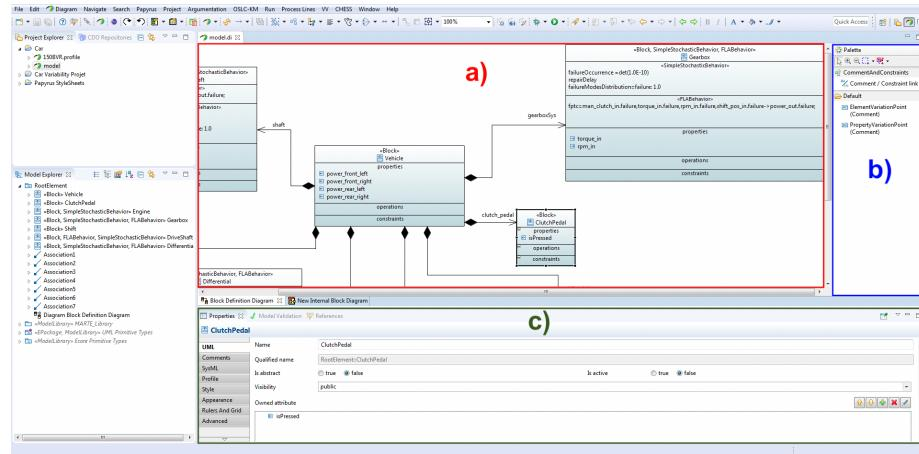

Figure 18: CRITVAR Environment and its a) graphical editor of the targeting modeling language, b) palette and c) properties view
- i. Select the desired element on the graphical editor of the targeting modeling language (Figure 18 a));